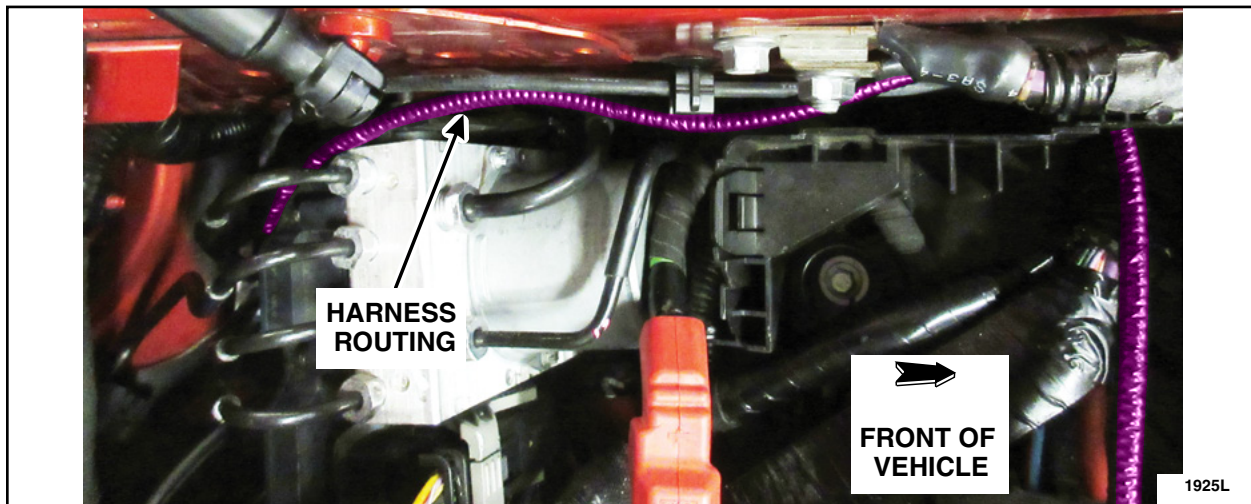

FIGURE 12
14. Route the underhood harness along side the hood release cable. See Figure 12.